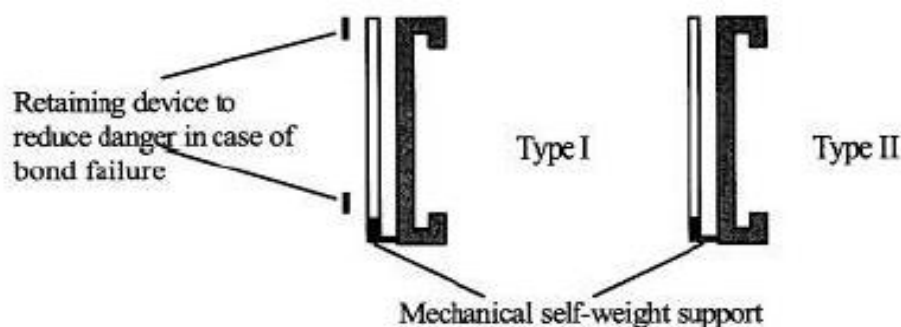

Figure 1 – Schematic example of the Type I and II of Structural Sealant Glazing Kit (SSGK)
- System 1 for Type II according to 2.1 Figure 1
- System 2+ for Type I according to 2.1 Figure 1